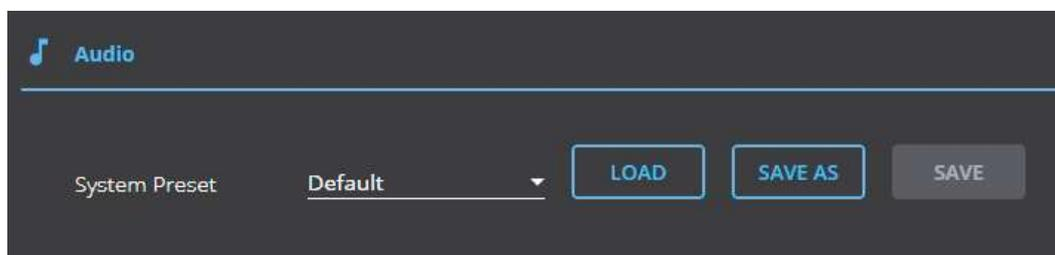

Figure 28: A/V Settings Page
1. Click the preset status area. The A/V settings page appears (see Figure 28).